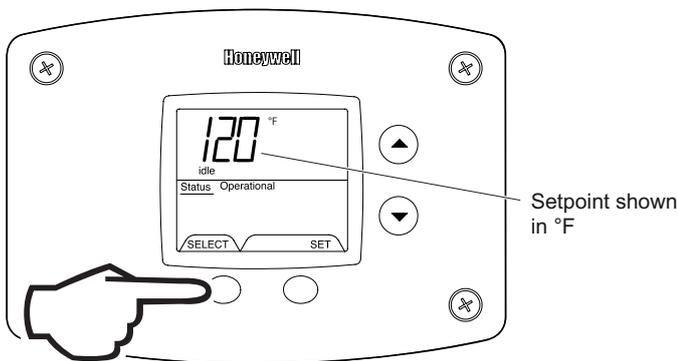

Fig. 36
- Pressing 'SELECT' button will return display to setpoint in format selected (°F or °C) immediately (Fig. 36).